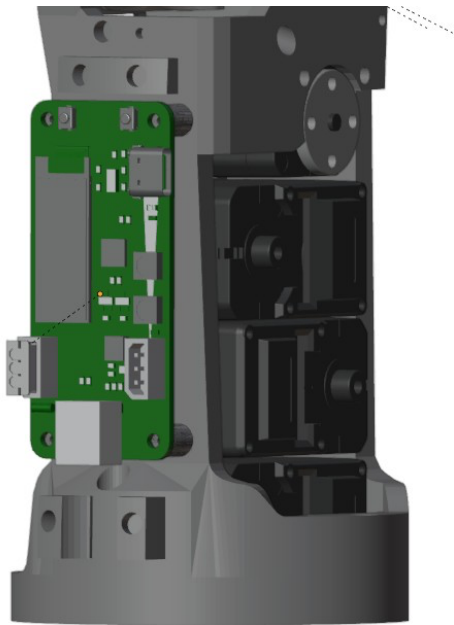

Figure 5.12: Logic board installed
1. Install the logic board onto the skeleton as shown in figure 5.12, using 4 M2 6 mm long self-tapping screws.